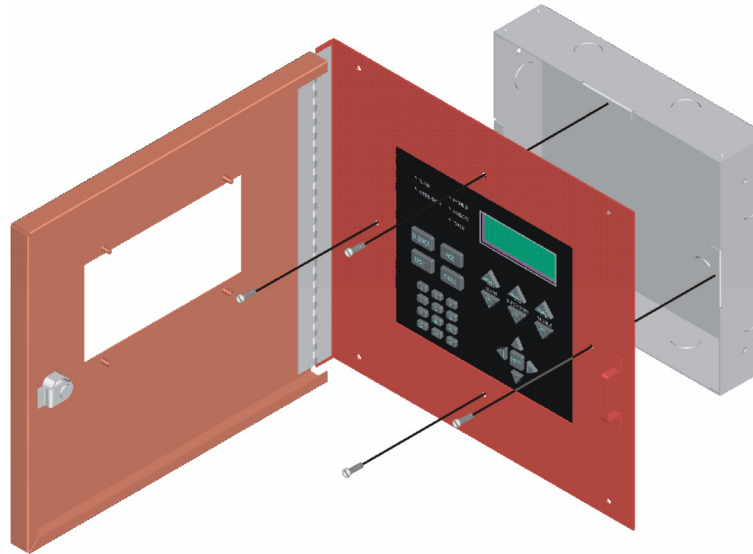

Figure 4.12 Attaching Annunciator/Door Assembly to Backbox
4. Attach the annunciator and door assembly to back box as shown in Figure 4.12 using the supplied screws.